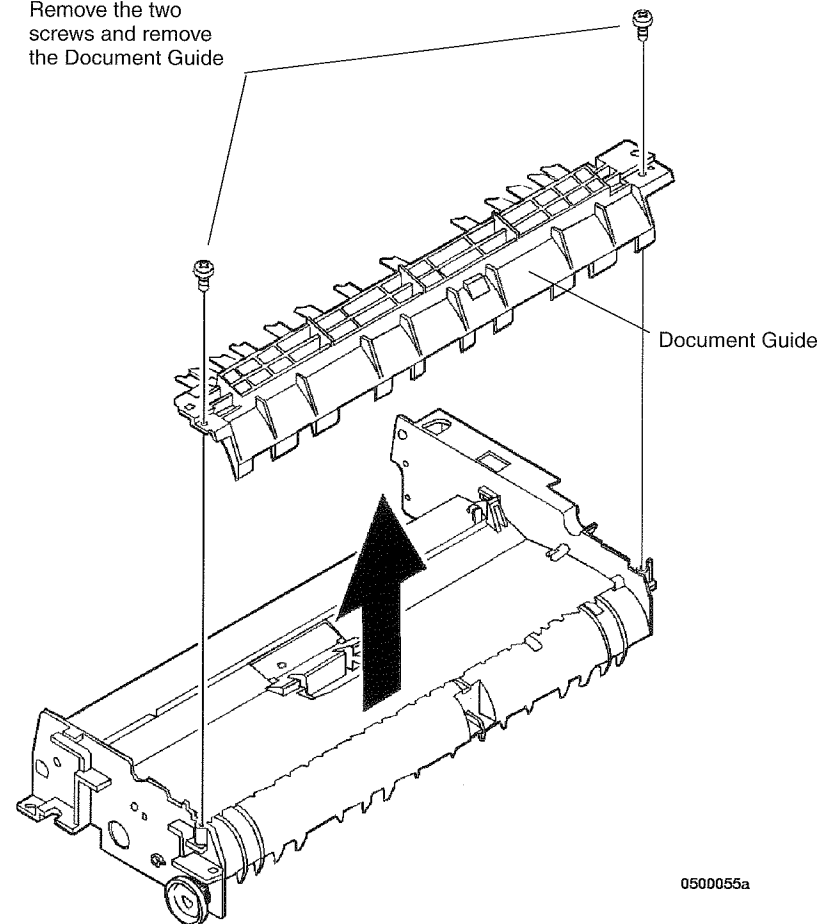

Figure 1 Removing the Document Guide
3. ( Figure 1); Remove the Document Guide.